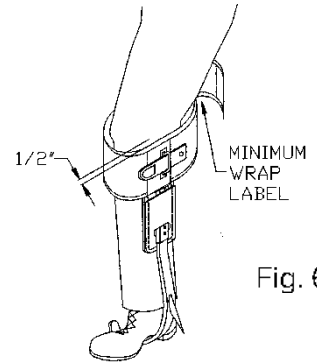

Fig. 6
2. Adjust the length of the climber using the adjustable climber sleeve so that the top of pad is 1/2" below the projecting knee bone (Fig. 6).